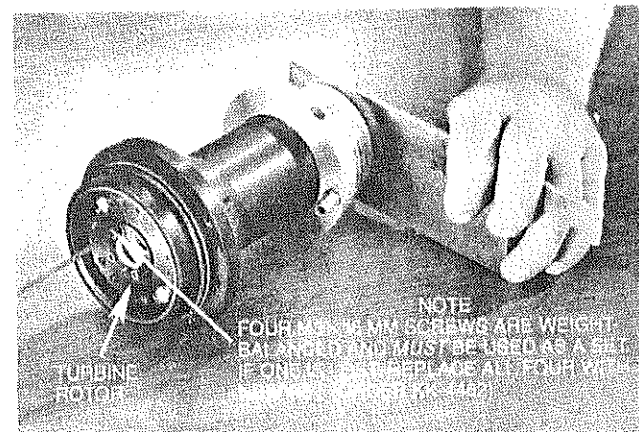

FIG. 9
4. Remove four M3X16 MM cap screws with 2½ MM hex allen wrench. Prevent shaft from spinning by locking with RPM-419 wrench (Fig. 9). See "Note".
5. Remove turbine rotor from shaft (Fig. 9). Note: If rotor will not fall off shaft easily, proceed to step 6.